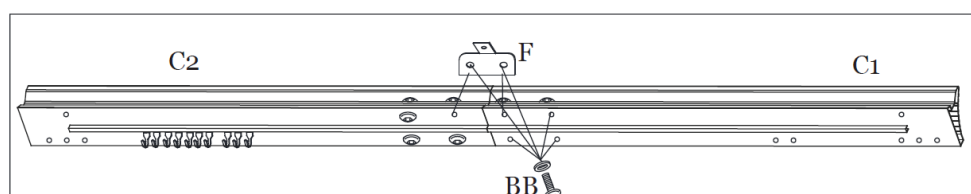

Figure 2-6
Step 2F: Attach Lintel Bracket (F) to Short Lintels (C1 and C2) using Bolts (BB). **Tighten All Bolts.** See Figure 2-6. Repeat Step 2D to 2F for remaining Short Lintels (C1 and C2).